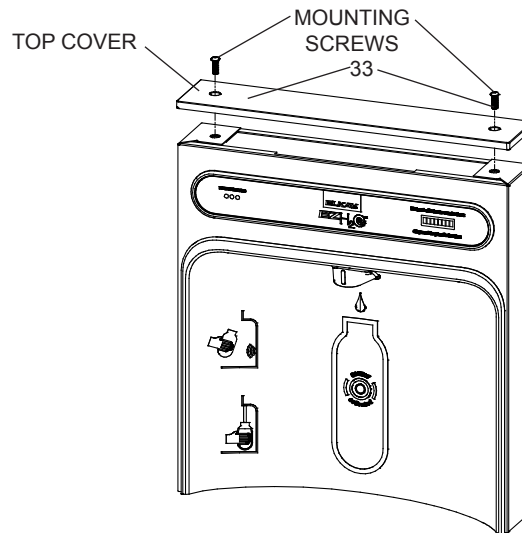
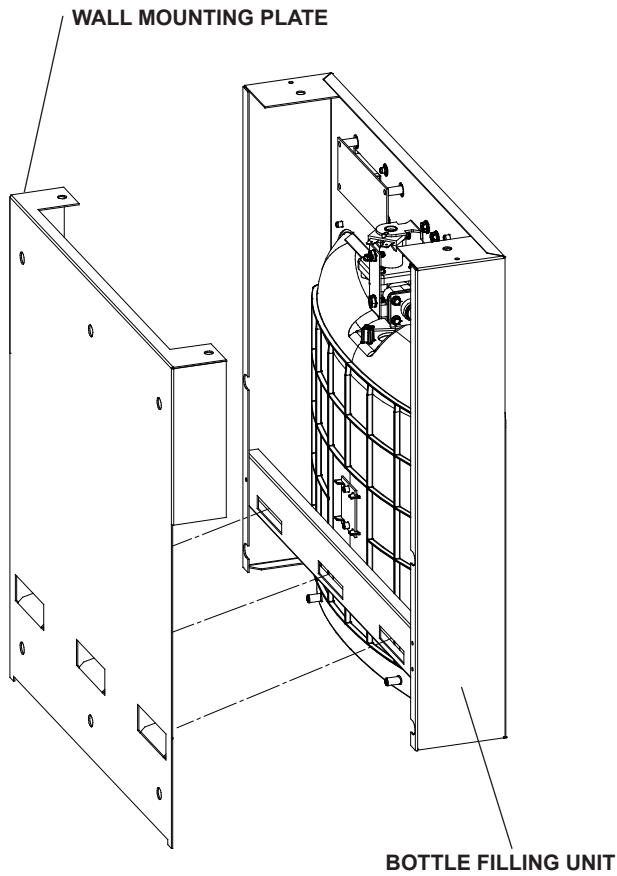

Fig. 7
Fig. 10
- 1) Remove two (2) mounting screws with 5/32" Allen wrench holding top cover to Bottle Filler (See Fig. 7). Remove top cover. Note do not discard mounting screws, they will be needed to reinstall top cover.
- 10) With the power cord, wire(s), and waterline through hole on top of water cooler place Bottle Filler on the three (3) angled tabs protruding from the wall mounting plate, installed on wall. Make sure round boss in gasket fits in hole of basin. (See Fig. 10).
- 11) Once Bottle Filler is installed on wall plate tabs, water line, wire(s) and power cord are installed properly, push top of Bottle Filler toward wall and line up top cover two (2) holes.
- 12) Reinstall Top Cover on Bottle Filler (See Fig. 7) with two mounting screws from step 1 above. Caution, do not over tighten screws.